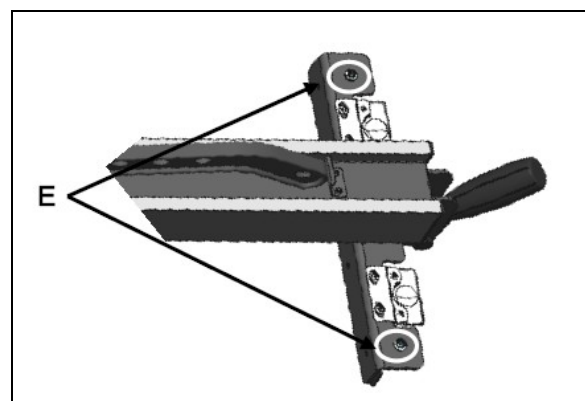

Figure 25
Take a machinist square and place it on the table top and against the fence and look between where the fence and table meet the machinist square for gaps. If needed you can adjust the two nylon set screws E to tilt the fence slightly to square it up with the table. See figure 25 in the next column.
- 3.) If the fence is not level you will need to adjust the nylon screws E located on the top of the rip fence by the locking lever. Adjust them until the front of the rip fence has an equal amount of space between the table surface and bottom of the fence as well as from side to side insuring that the fence is at 90° in relation to the table surface. See figure 25 below.